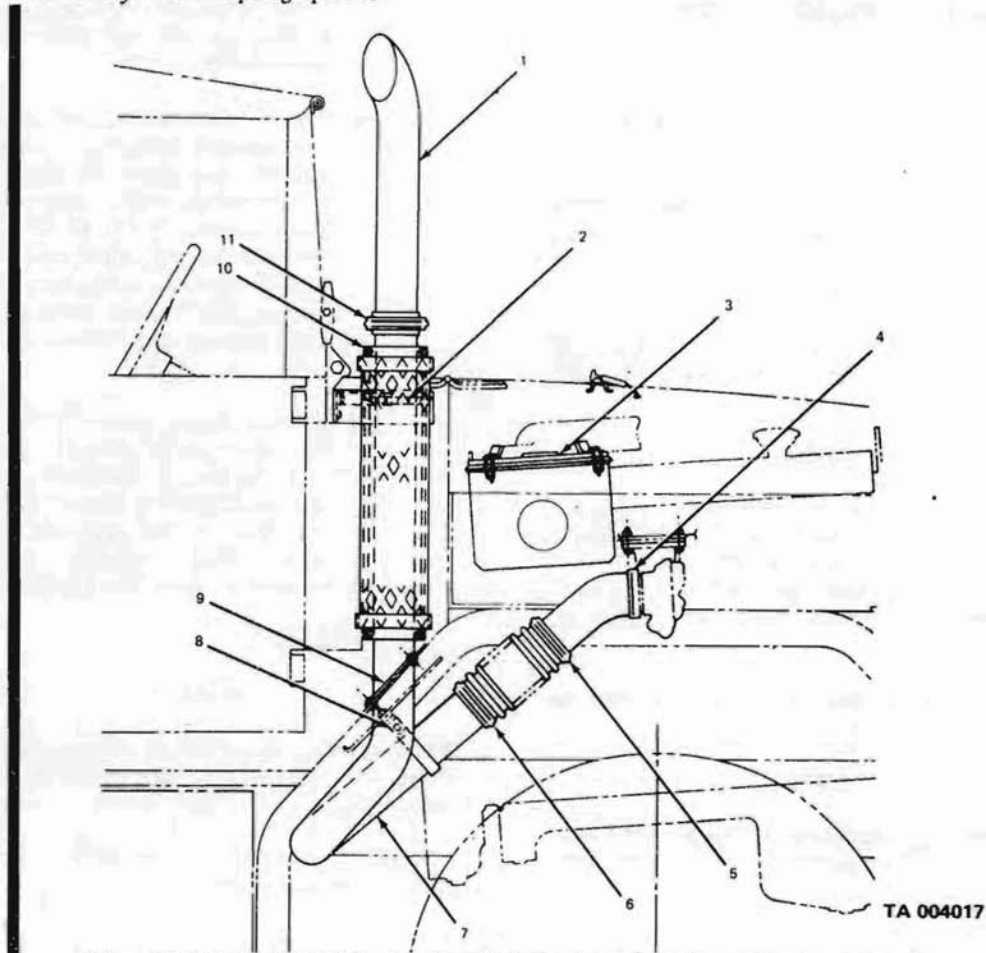

Figure 427.10.1. Vertical stack exhaust (clean air configuration engine) – removal
**402.2. Vertical Stack Exhaust System (For Clean Air Configuration Engine)** (Fig. 427.10.1)**NOTE**
All numbers in parenthesis are keyed to numbers on figure 427.10.1.